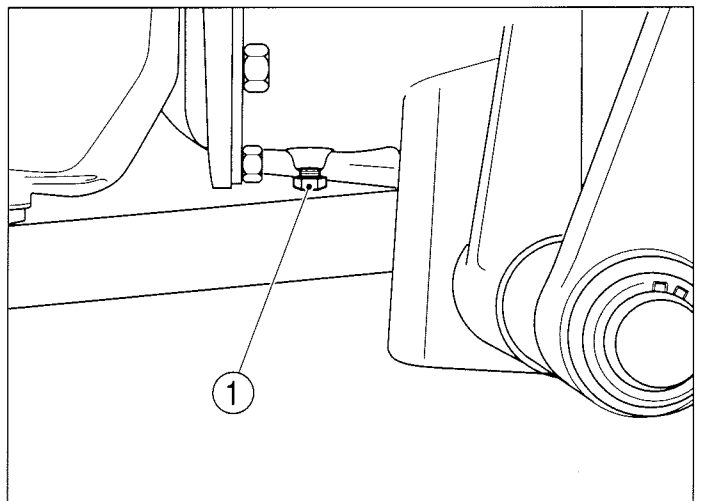

FIG. 111
FIG. 111: Pipe plug (1) should be removed from the bottom of the clutch housing once a year or when clutch slipping is apparent. Any oil leakage from the engine rear crankshaft seal and/or transmission input shaft will be indicated by oil draining through the hole. Contact your ISEKI dealer if oil leakage is evident.